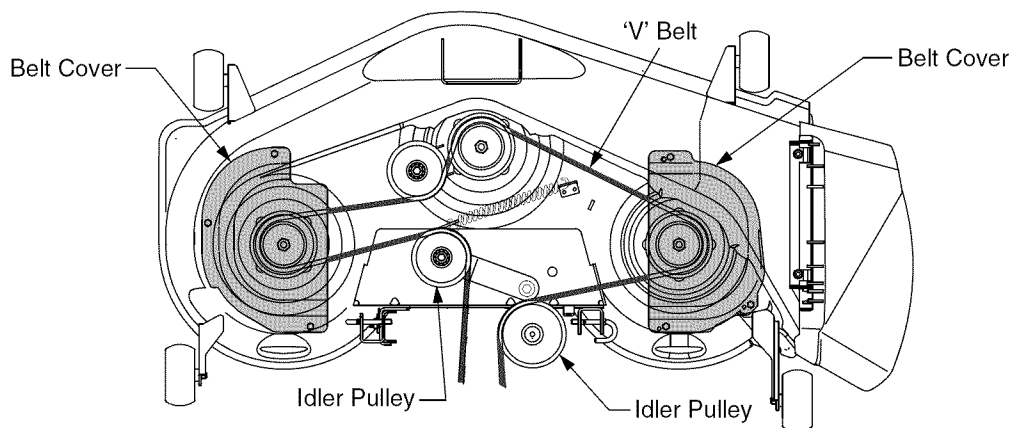

Figure 36
- Remove the hex tapping screws securing the belt covers to the deck and remove the belt from the spindle pulleys. Refer to Figure 36.
- Install the new belt around the spindle pulleys as shown in Figure 36 and reinstall the belt covers.